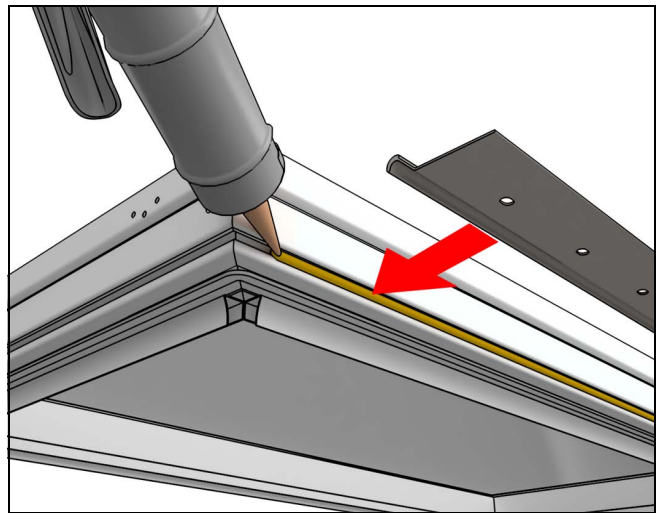

Figure 41
**11.** On **Skylight units only**, apply sealant to mounting flange kerf on all four sides of the product prior to installing the mounting flange. See Figure 41.